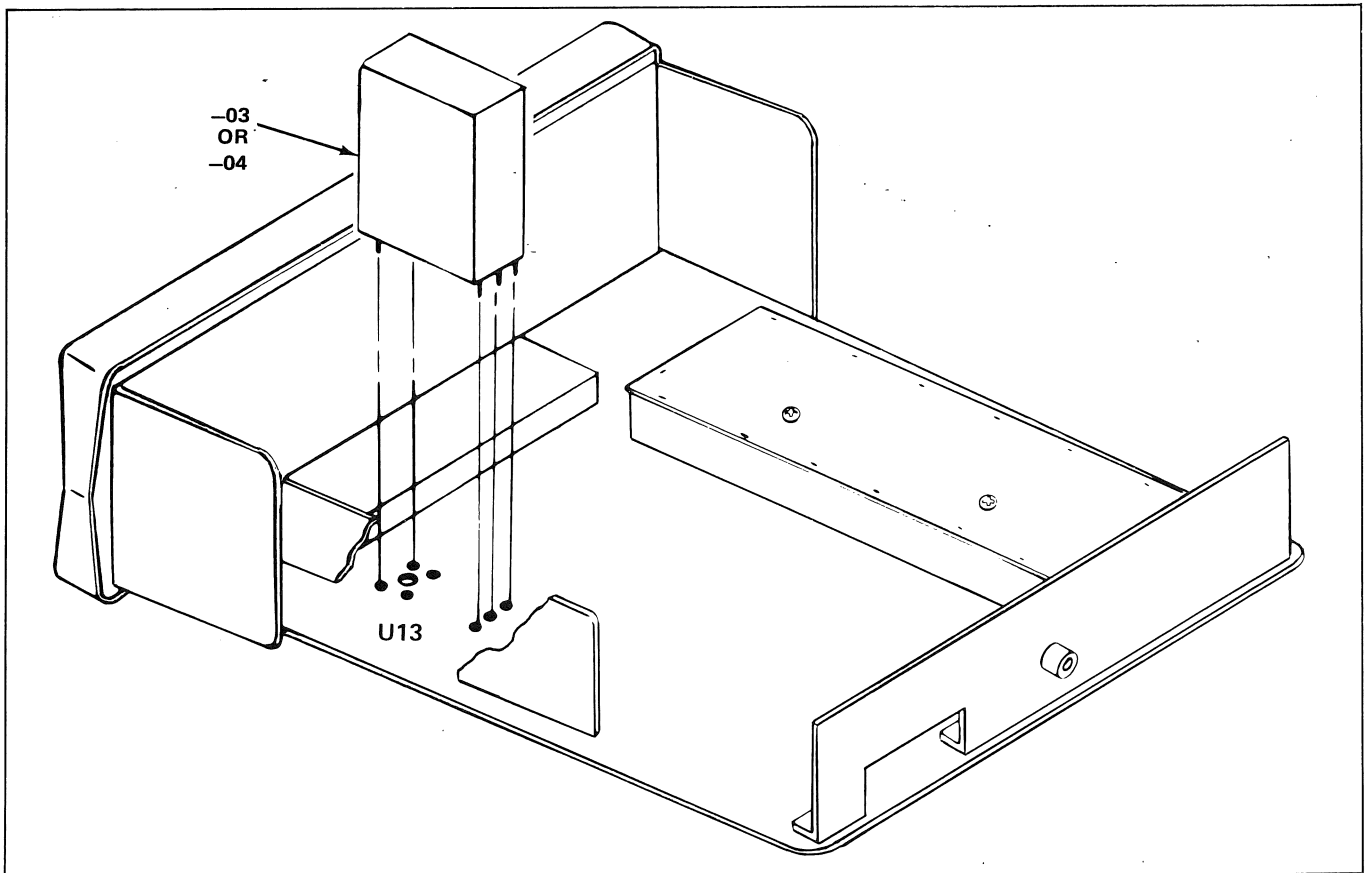

Figure 603-2. -03/-04 TCXO Assembly
- 603-5. The —03 TCXO is a completely sealed unit, containing no replaceable parts (See Figure 603-2).
- 604-5. The —04 TCXO is a completely sealed unit, containing no replaceable parts (See Figure 603-2).